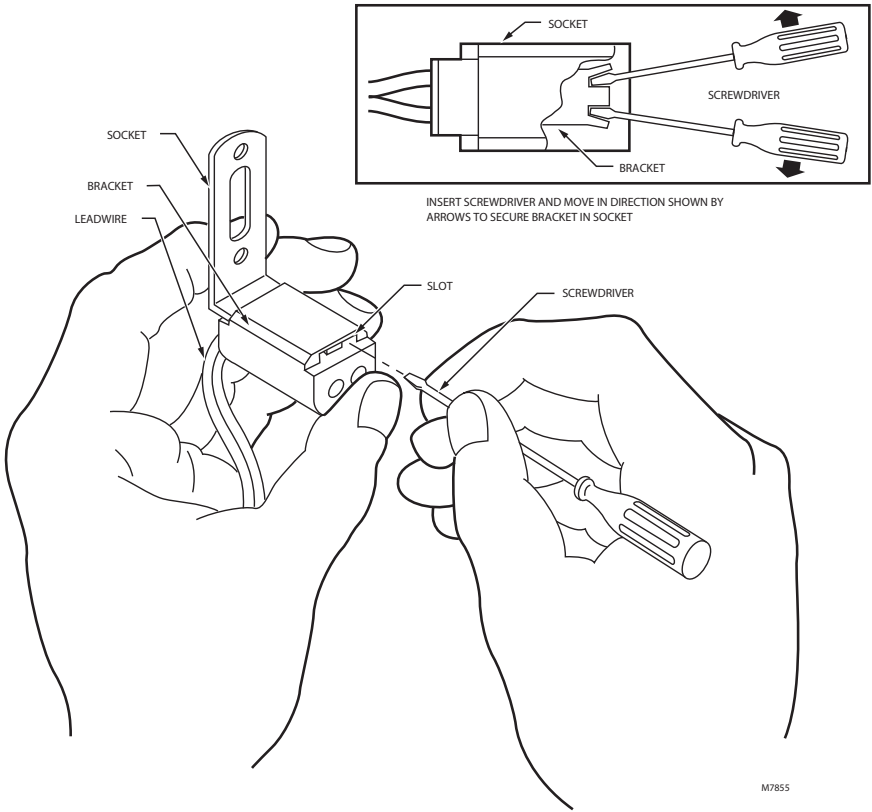

Fig. 4. Insert screwdriver to secure bracket in socket.
4. While holding the mounting bracket in the slot, insert the screwdriver in the other end of the slot (Fig. 4). Bend the screwdriver first to the left, then to the right, to crimp the end of the mounting bracket and hold it in position.